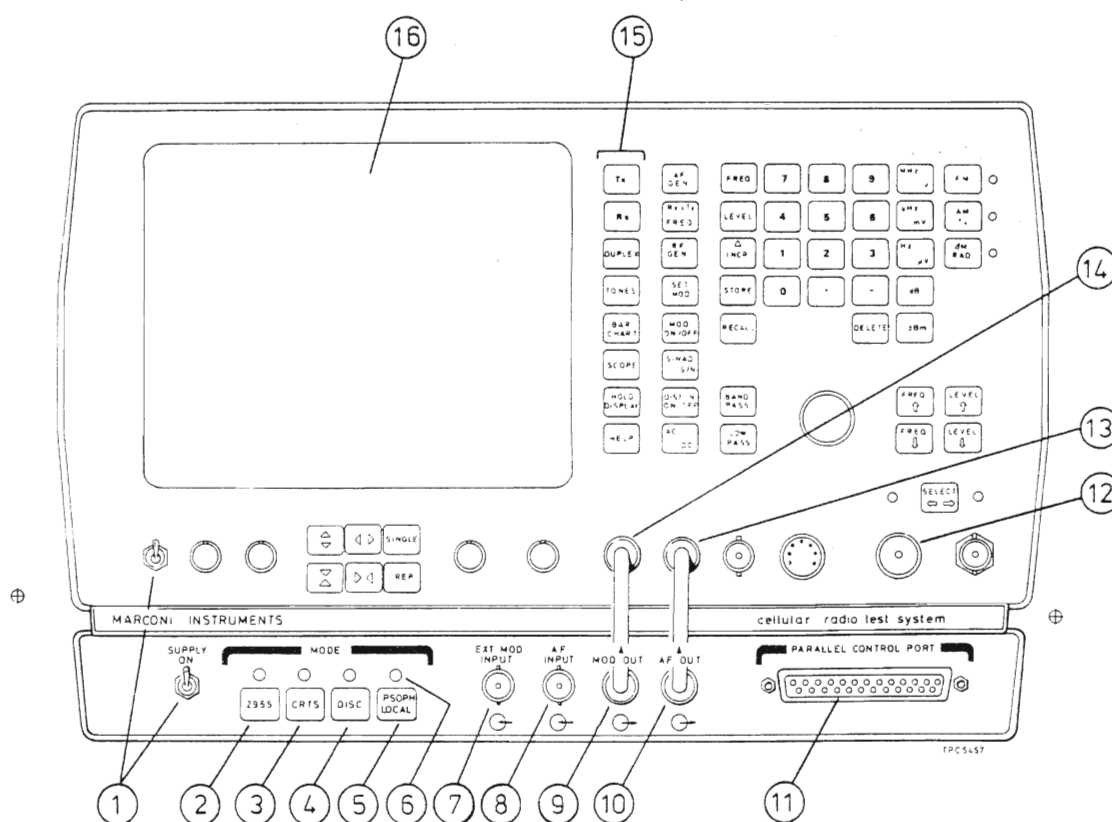

Fig. 1 2958 Front panel controls and connectors
4. Front panel controls and connectors shown in Fig. 1 are as follows:-